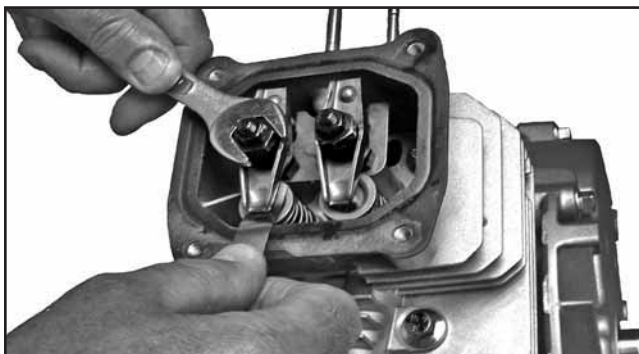

Figure 10-23. Setting Valve Lash.
7. With the piston at top dead center of the compression stroke, insert a **0.1 mm (.004 in.)** flat feeler gauge between one valve stem and rocker arm. See Figure 10-23.
8. Tighten the rocker pivot with a wrench until a slight drag is felt on the feeler gauge. See Figure 10-23. Hold the nut in that position and torque the jam nut to **9.5 N·m (84 in. lb.)**. Perform the same adjustment procedure on the opposite valve.